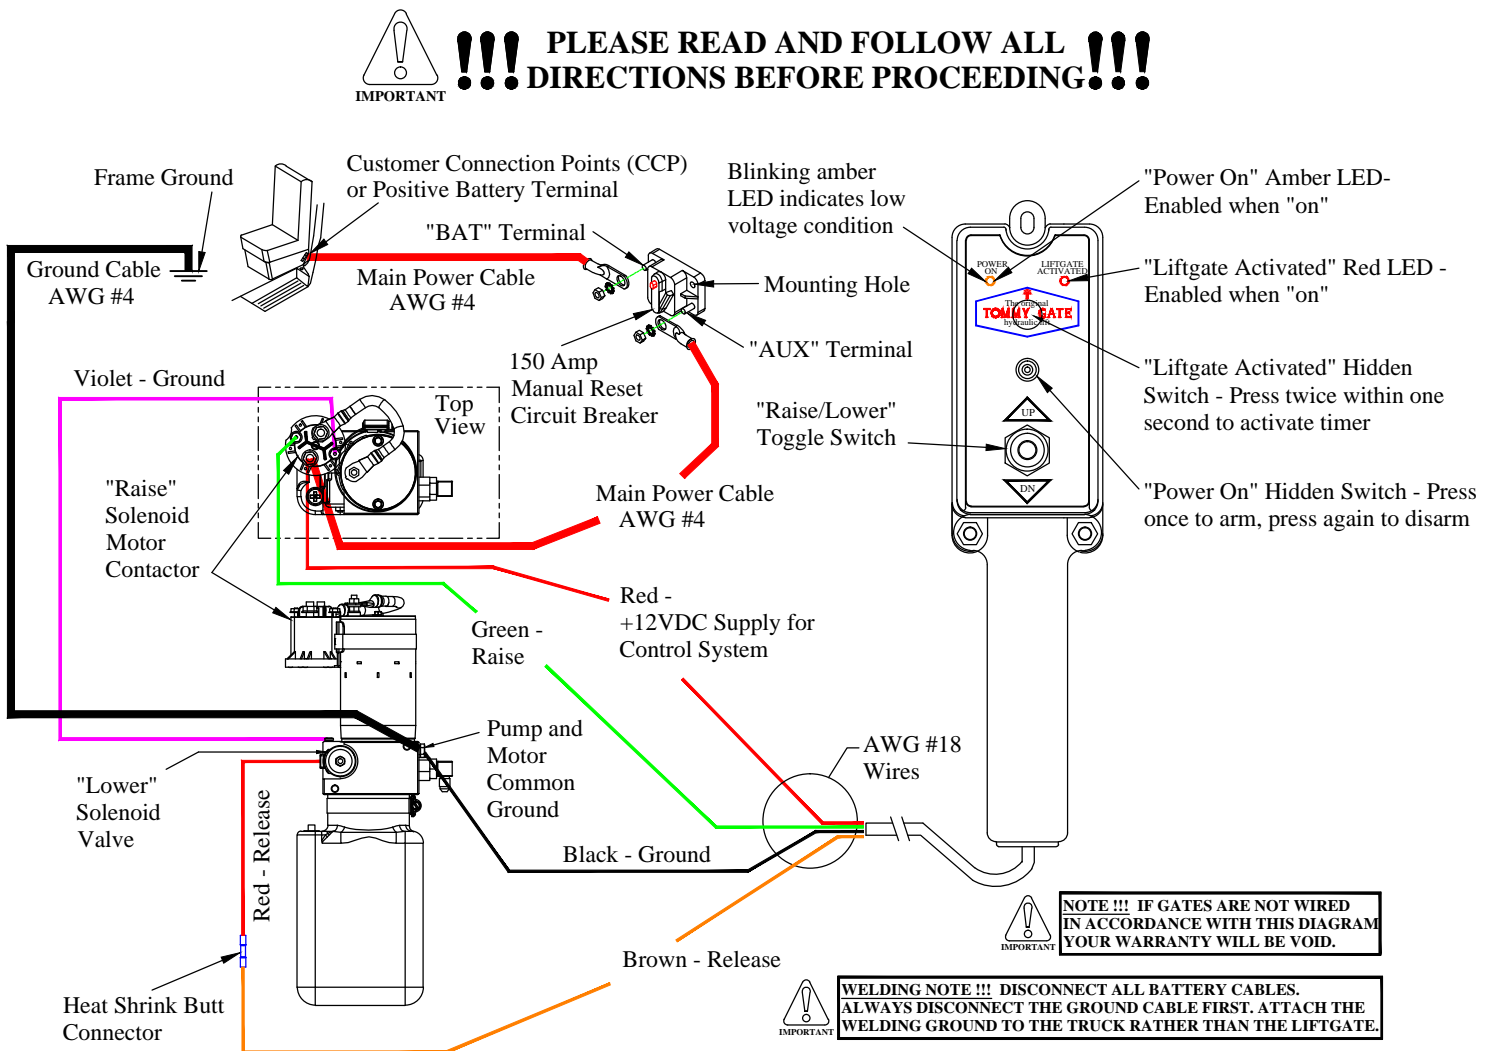

Figure 18: Wiring Diagram.
Note: Follow the *Tommy Gate Recommended Electrical Wiring Guidelines* and wiring diagram (Figure 18) in the following steps.
15. **Connect** the circuit breaker (Figure 18). Use the supplied heat shrink tubing.
21. **Push** the hidden "Power On" switch (Figure 18). The amber "Power On" LED will illuminate.